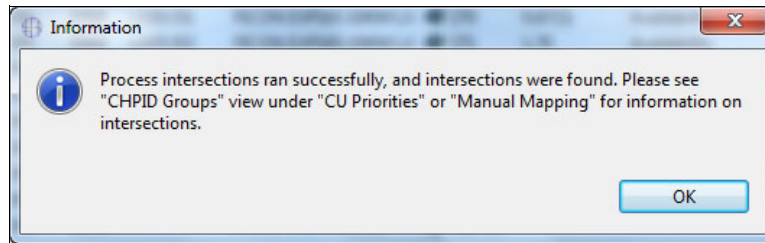

Figure 8-80 CMT - Process Intersections run successfully message
7. Click **OK** (Figure 8-80).